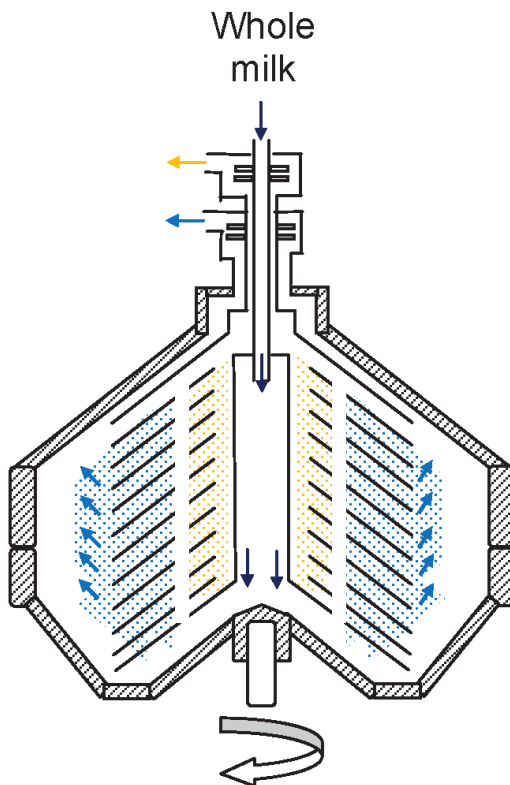

Fig.5.6. Top feed cream separator
- **Top feed:** Provision of whole milk inlet is from the top of the centrifuge bowl (Fig.5.6).